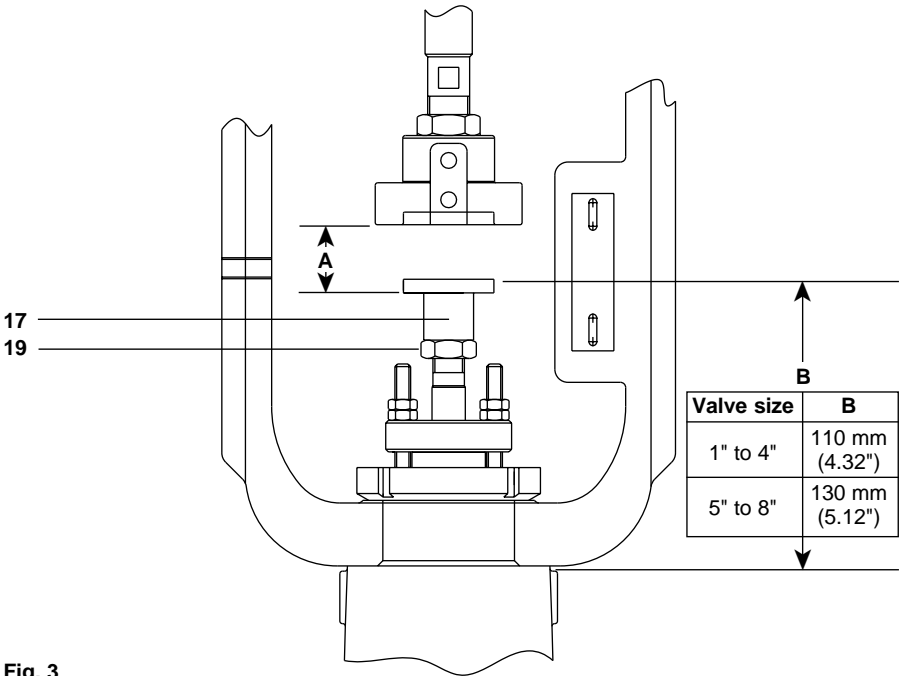

Fig. 3
3.2 Fitting the PN1000 spring to extend series actuator to the valve (Refer to Figures 3 and 4):
- Loosen and remove the connector locking screws (12) and remove the anti-rotation plate (11).
- Fit the valve spindle adaptor (17) onto the valve spindle and manually push the valve plug to its closed position.
- Place the actuator yoke over the valve spindle and locate onto the bonnet shoulder. Locate and tighten the valve mounting nut (20) to the recommended tightening torque (Table 1, page 10).
- Adjust the position of the valve spindle adaptor (17) so that the distance 'A', as shown in Figure 3, is equivalent to the desired travel indicated on the actuator travel indicator plate (18), then tighten the lock-nut (19).
- Fit the anti-rotation plate (11). Fit the connector locking screws (12) and tighten to the recommended torque (Table 1, page 10).
3.3 Fitting the PN2000 spring to retract series actuator to the valve (Refer to Figures 3 and 4):
- Adjust the position of the valve spindle adaptor (17) so that the distance 'B' is equivalent to the value shown in Figure 3, then tighten the lock-nut (19).